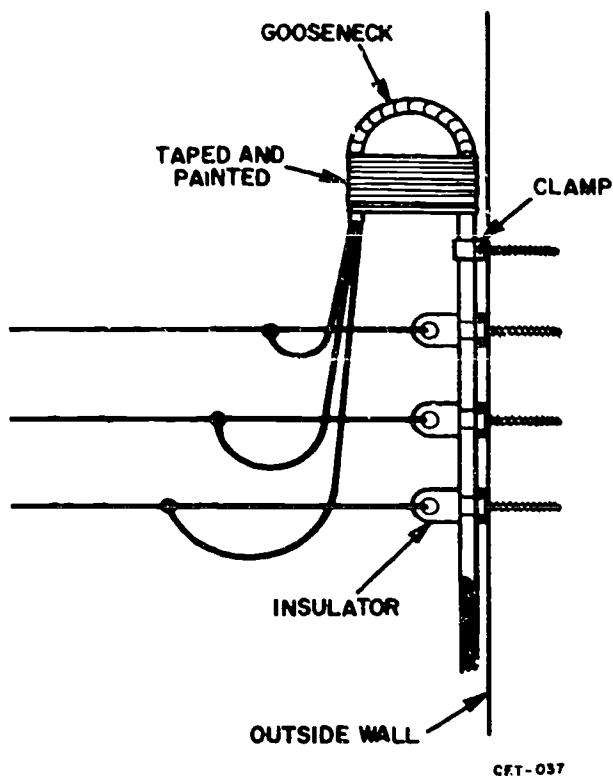

Figure 4-9. Service entrance cable gooseneck.
Service-entrance (SE) cable. Service entrance cable can be used for the service entrance in place of rigid conduit where it is not apt to be damaged physically. Service entrance cable has the insulated conductors wrapped with the stranded neutral conductor. This method of wrapping the neutral around the other conductors provides some protection from damage and gives some added stiffness. The service drop end of the SE cable may have a weatherhead attached that protects against moisture. Another means of keeping moisture out is to form a gooseneck on the end of the SE cable like that shown in figure 4-9. This gooseneck must be taped and painted or taped with a self-sealing, weather-resistant thermoplastic. The service entrance cable must be supported by a cable clamp within 12 inches of the weather head, gooseneck, or connection to a raceway. Additional clamps are required for support at intervals no more than 4 ½ feet apart.